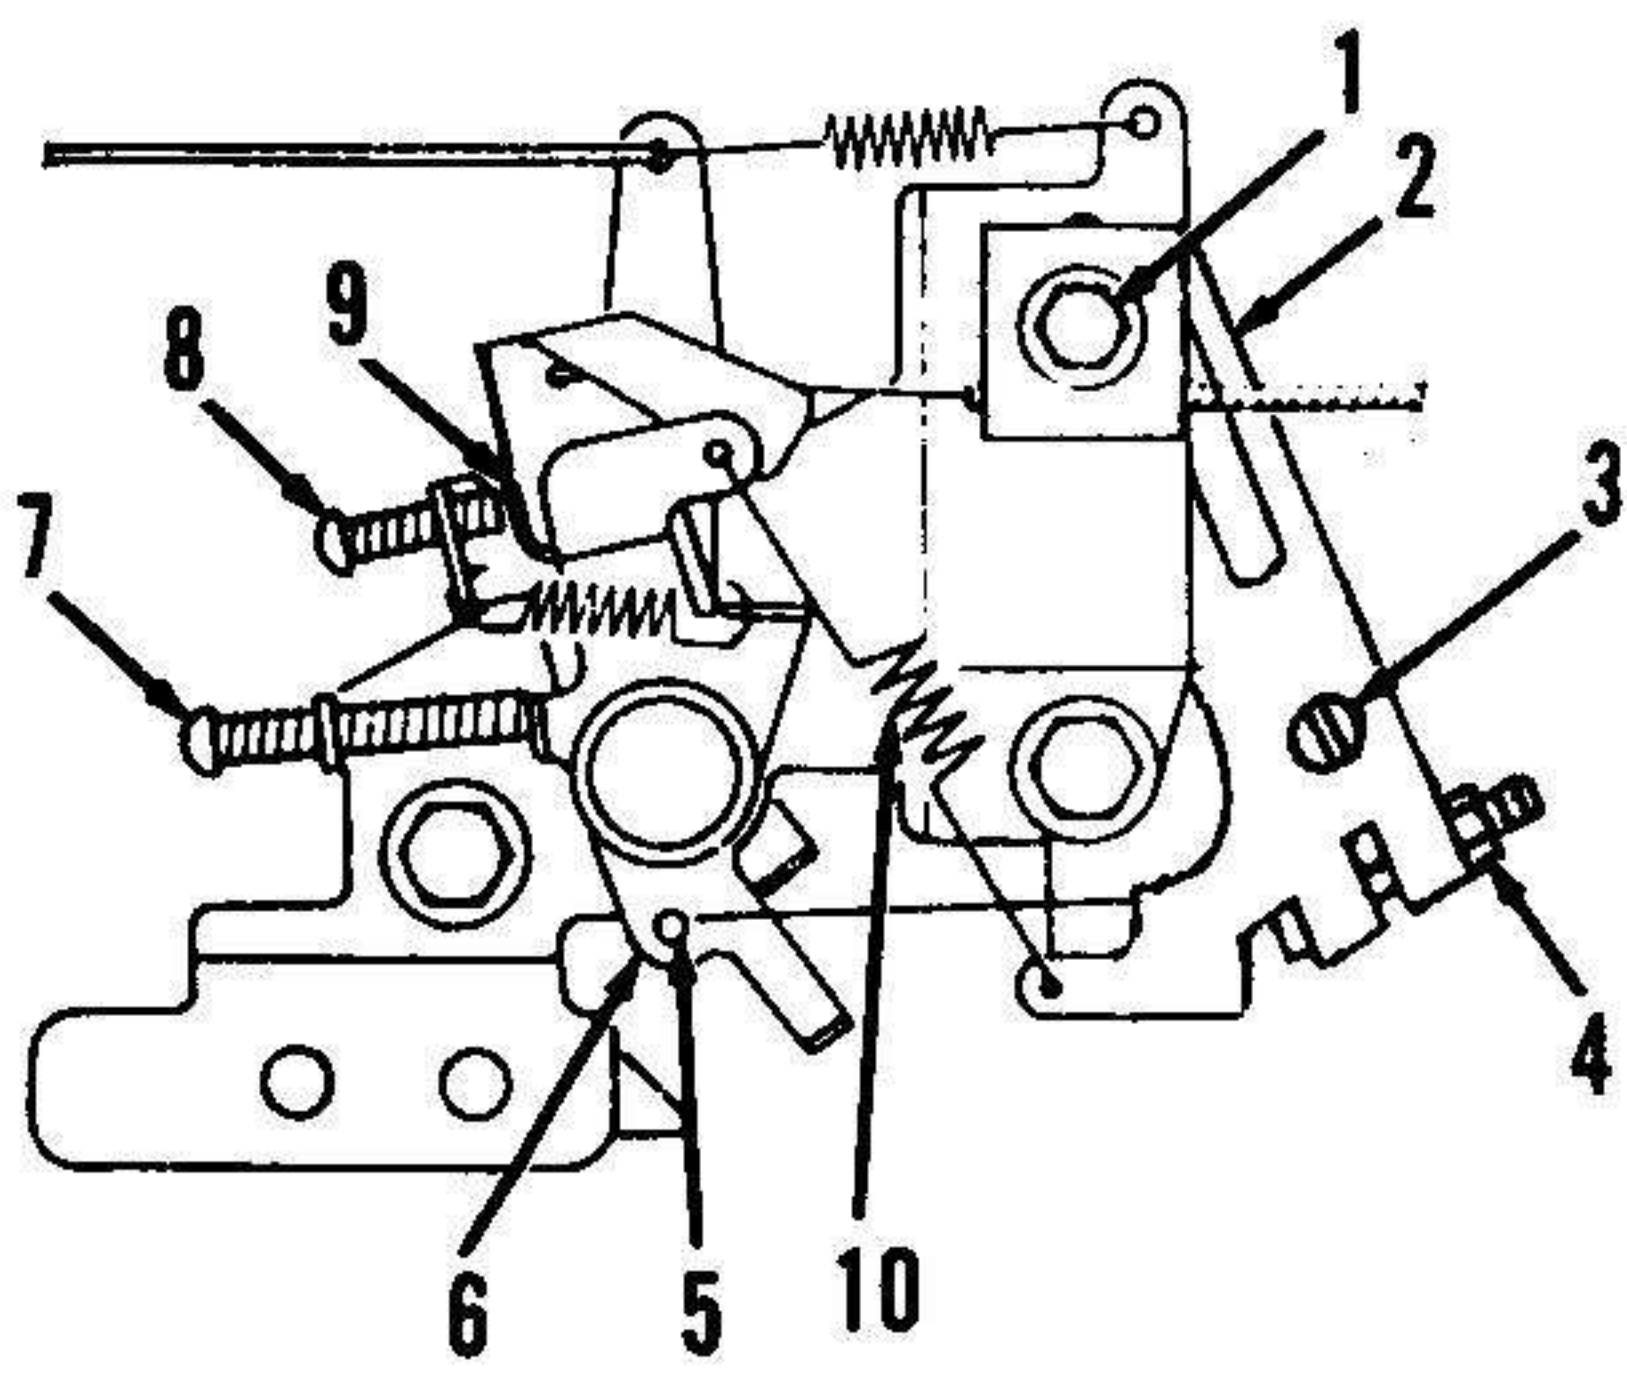

Fig. TO52—Drawing of governor and speed control linkage.
**SPEED CONTROL CABLE.** When the speed control is in the "FAST" position, holes (5—Fig. TO52) in speed control lever (6) and bracket should be aligned. Unscrew throttle cable clamp screw (1) and relocate cable to align holes, then retighten clamp screw.
**GOVERNOR.** All engines are equipped with a mechanical (flyweight) type governor. Maximum governed speed is adjusted by turning adjusting screw (7—Fig. TO52). With speed control in the "FAST" position so holes (5) in speed control lever (6) and bracket are aligned, rotate adjusting screw so engine runs at 3000 rpm. Rotate stop screw (8) so screw end is 0.00-0.05 mm (0.000-0.020 in.) from tang (9).
To adjust the governor linkage, refer to Fig. TO52 and loosen governor lever clamp nut (4). Rotate governor shaft (3) clockwise as far as possible. Move the governor lever until carburetor throttle shaft is in wide open position, then tighten governor lever clamp nut.